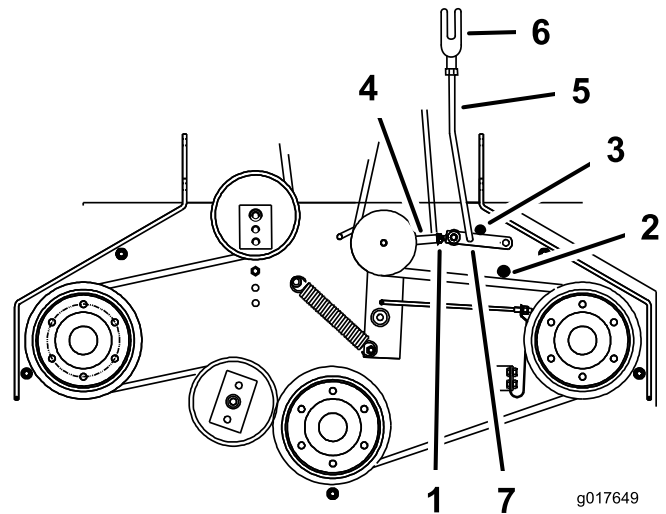

Figure 49
8. To adjust the assist arm link, remove the hairpin cotter pin from the assist arm (Figure 49).
11. Install the assist arm link into the assist arm and secure it with the hairpin cotter pin (Figure 49).
5. Make sure that the assist arm is against the rear-assist-arm stop on the deck (Figure 49).
7. The assist arm should contact the front-assist-arm stop on the deck. If it does not contact, adjust the bellcrank so that it is closer to the gusset (Figure 49).